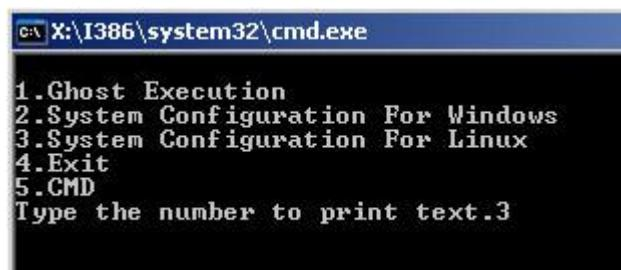

Figure B-23: System Configuration for Linux
**Step 4: Build-up recovery partition.** Press any key to boot from the recovery CD. It will take a while to launch the recovery tool. Please be patient. When the recovery tool setup menu appears, type <3> and press <Enter> (**Figure B-23**). The Symantec Ghost window appears and starts configuring the system to build-up a recovery partition. After completing the system configuration, press any key to reboot the system. Eject the recovery CD.